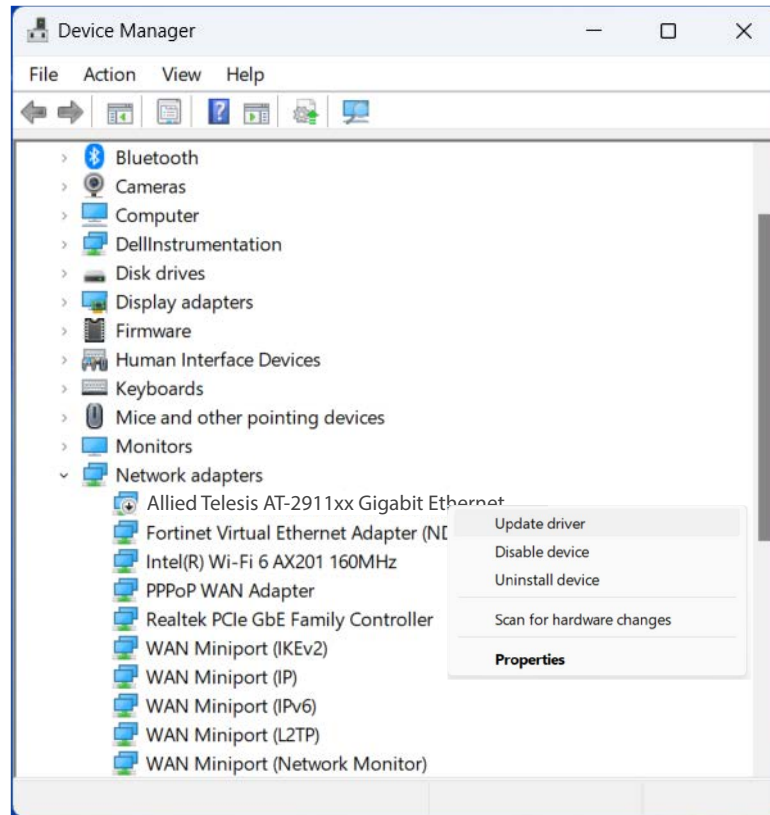

Figure 19. 2911xx Gigabit Ethernet in Device Manager
4. In the shortcut menu, select **Update driver**. See Figure 19.
The shortcut menu appears. See Figure 19 on page 44.